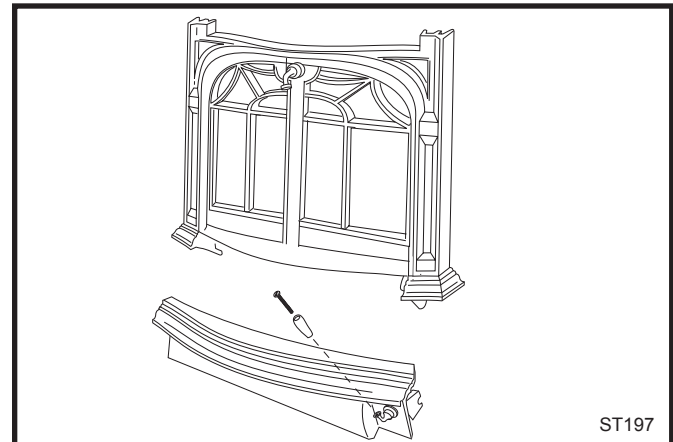

Fig. 26 Attach the handle to the control door.
3. Attach the wooden handle to the control door using the #8-32 x 2" screw from the parts bag. (Fig. 26)